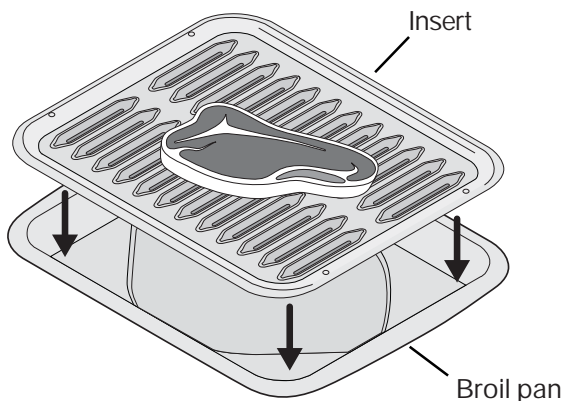

Fig. 1
- Use the recommended pans and oven rack positions for the type of meat being prepared - p.23 Figs. 1, 2 & 3-.
The broil pan insert (if equipped) contains slots that allows grease from the meat to drain into the broil pan. Place prepared meat on broil pan insert and then place onto broiler pan as shown -*Fig. 1*.